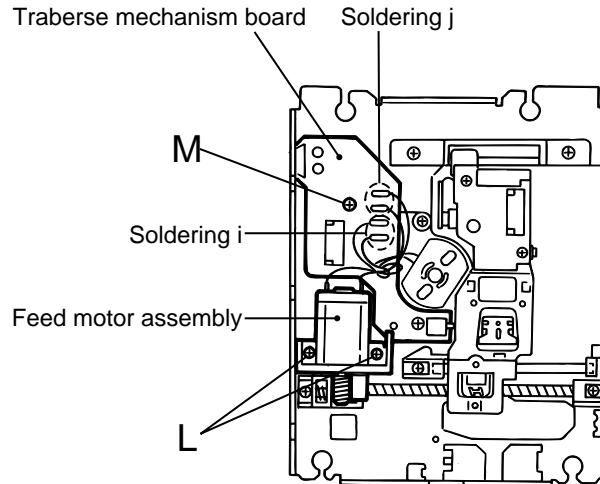

Fig.19-1
■Removing the feed motor assembly (See Fig.19-1, 19-2)
■Removing the traverse mechanism board (See Fig.19-1)